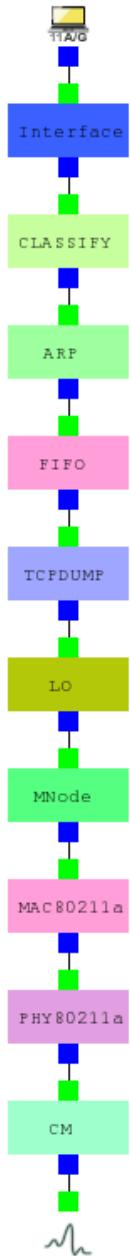

Figure 5.1.11 *The protocol stack of IEEE 802.11(a/g) infrastructure mode node2*
- i. Node2: Click “Node editor” button to see the protocol stack of node2 as figure 5.1.11.